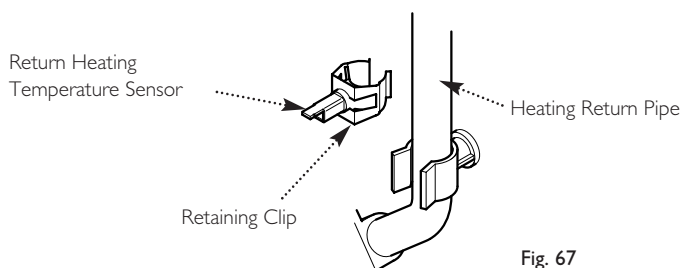

Fig. 67
14.11 Return Heating Temperature Sensor (Fig. 67)